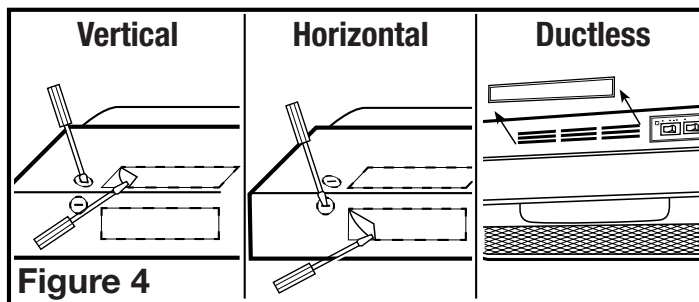

Figure 4
- 2a. **Horizontal or Vertical** - Remove the appropriate square knockout by inserting a screw driver under the edge and break the tabs holding it in place. Peel back with pliers (**Figure 4**).
- 2b. **Ductless** - Remove the hood's front louver cover, exposing the front air slots. To remove louver slide to one side and lift the trailing edge. Do not use a screwdriver or any other object that could scratch the hood (**Figure 4**).
3. Determine where the electrical service will enter the hood and remove the appropriate electrical knockout by inserting a screw driver into the slot and rocking back and forth until the knockout comes loose (**Figure 4**).
NOTE: FOR DUCTLESS INSTALLATIONS ONLY, if you did not already do so in the earlier steps, remove the vent insert from behind the grill on the outside of the hood (**Figure 4**).